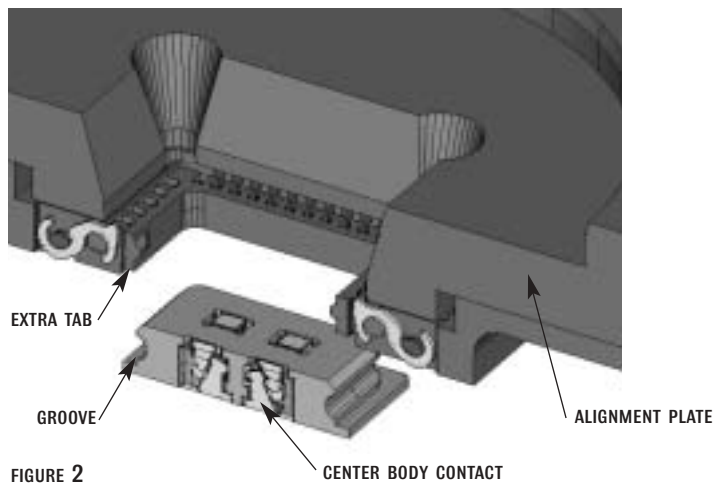

FIGURE 2
- Tip: To find the extra tab in the housing, look at the housing under a microscope, FIGURE 2.
2. Take note of the extra tab inside of the insert hole in the contactor housing, **FIGURE 2**.